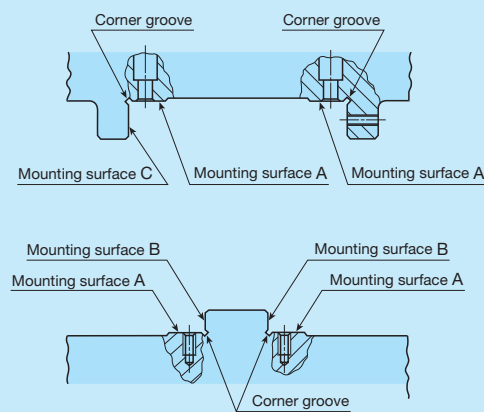

Fig. 15 Mounting surface
- While making the way sticking to B surface (refer to Fig. 15) tight, fully tighten the screws to the specified torque.
- While tightly pressing the fixing-side way to C surface (refer to Fig. 15), fully tighten the screws to the specified torque.